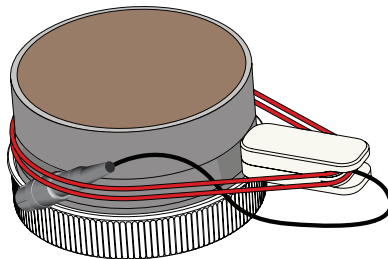

Figure 21 Soil sample ring with sensor installed
10. Secure the sensor cable connector in the retaining rings (Figure 21).